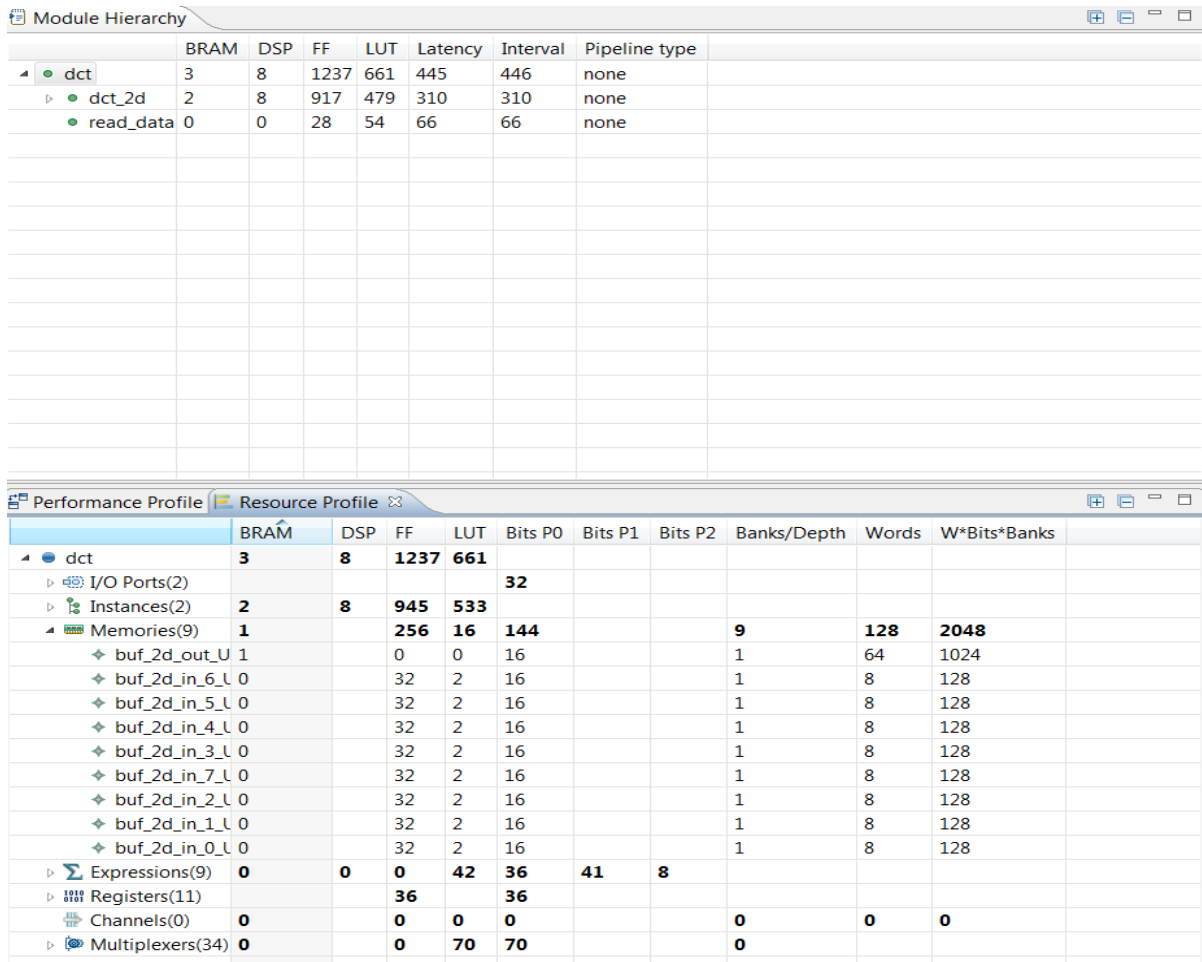

Figure 6-28: DCT Resource Profile
11. Expand the **Memories** and **Expressions** see the view in Figure 6-28.
The Resource Profile shows the resources being using at the current level of hierarchy (the block selected in the Module Hierarchy pane). Figure 6-28 shows:
You still have a goal to ensure that the design can accept a new set of samples every 125 clock cycles. Figure 6-28, however, shows that you can only accept new data every 525